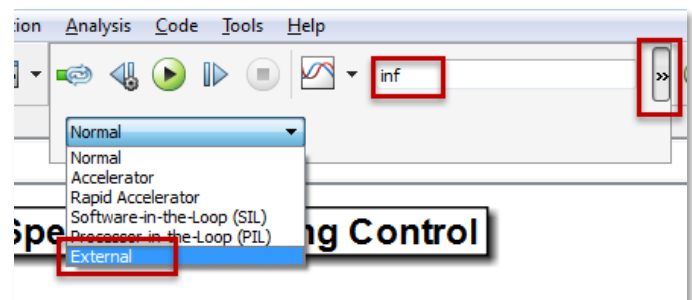

Figure 18: Setup for External Mode
* External Mode (**Figure 18**) allows you to run your model on the EV3, while still using Simulink on your host computer as an interface to interact with your model. This allows for live parameter tuning – you do not need to stop, edit
Note: If your model stops working after 10 seconds, you may have forgotten to adjust the Stop time in the model window (**Figure 18**).